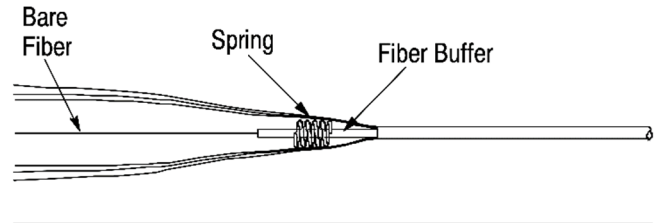

Figure 4
4. Slide the spring over the bare fiber and onto the buffer. See Figure 4.